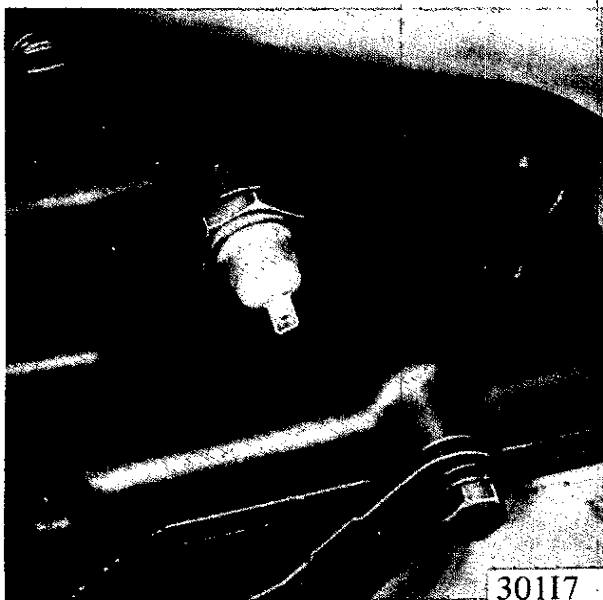

Figure 11-7 • Oil Pressure Sending Unit
2. Unscrew oil pressure sending unit from block. See Figure 11-7.